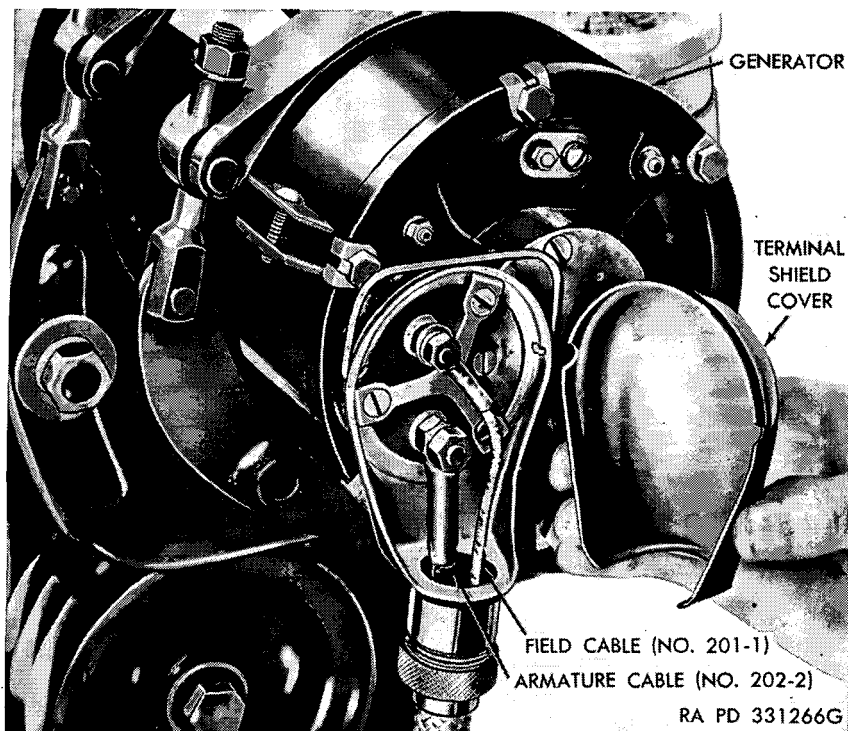
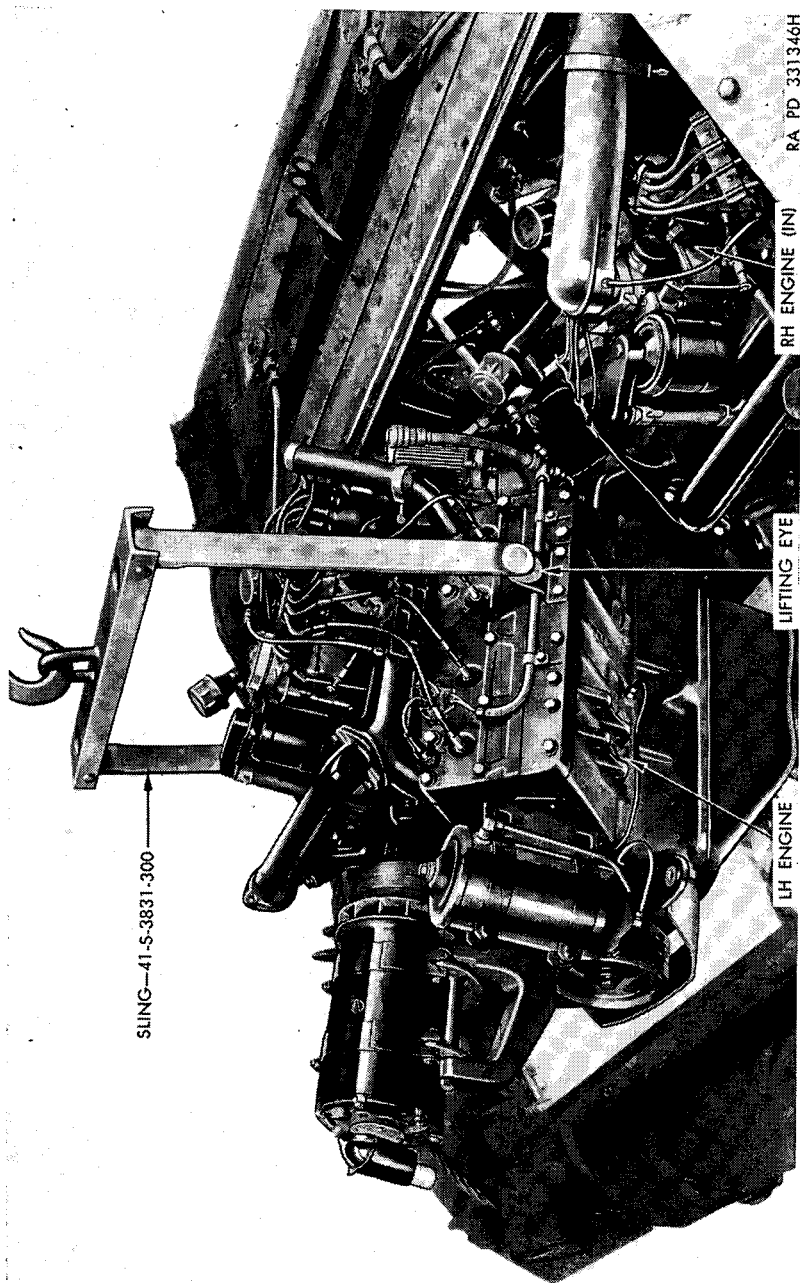
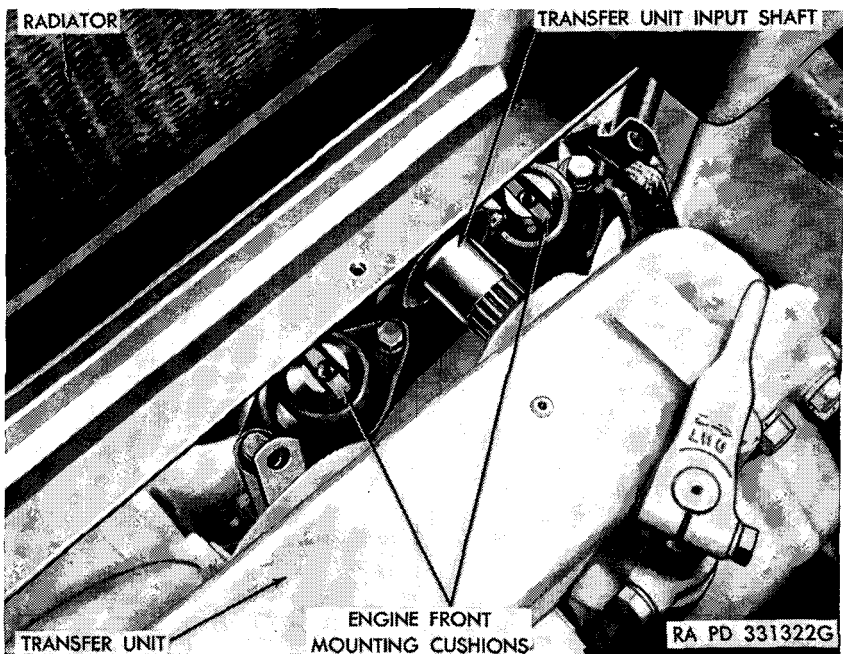

Figure 50. Generator cables.
Figure 51. Removing engine.
Figure 52. Inserting transfer unit input shaft.
- (14) *Disconnect engine front support.* Remove two cap screws (one on each side) for the engine front support bracket on transmission.
- (15) *Remove generator and starter conduits.* Unsnap cable clip and lift off generator terminal cover (fig. 50). Remove nuts and washers holding cables to terminals. Lift cables off terminals. Unscrew conduit connection at bottom of terminal shield box and pull wires out of box. Unscrew nut from starter terminal and remove starter cable.
- (16) *Disconnect engine rear supports.* Remove two cap screws (one on each side) from engine rear support brackets.
- (17) *Remove engine.*
- (a) Attach engine lifting sling—41-S-3831-300 to chain hoist and connect to lifting eyes on each cylinder head. Raise engine with hoist until it is clear of engine support brackets (fig. 51). Slide engine toward rear of vehicle until splined shaft on universal joint transmission slides out of transfer unit and splined shaft on fan drive is separated. Tilt engine upward at rear just enough so generator will
- (1) *Install engine.* Place engine sling—41-S-3831-300 on lifting eyes on cylinder heads and connect hoist to sling. Raise engine above and slightly to rear of engine compartment. Lower engine carefully with transmission end tilted down (fig. 51). Line up blind spline on fan shaft with shaft yoke. Guide splined transfer unit input shaft into transfer unit (fig. 52). Lower engine carefully until it rests on engine supports. Remove sling. Do not remove sling until all engine support bolts are installed. Sometimes it is difficult to align the support bolts and with engine raised slightly the bolts can be started easier. Tighten packing nut on fan shaft.
- (2) *Install engine supports.* Install two bolts, one on each side, in engine front support brackets. Working in fighting compartment, install two bolts in rear support brackets.
- (3) *Connect generator and starter conduits.* Place starter cable over terminal and secure with nut and washer. Insert generator cables through opening in shield box on front of generator and fasten cables to proper connections (fig. 50). Install nuts and washers holding cable to terminal posts. Slide knurled nut up on conduit and fasten to bottom of box. Place terminal shield cover on box and snap locking wire in position.
- (4) *Connect and adjust manual control shifter shaft.* Place transmission selector lever in "DRIVE" position. Position manual control shifter shaft in the middle detent position. If the clevis pin hole in the bottom of the operating lever does